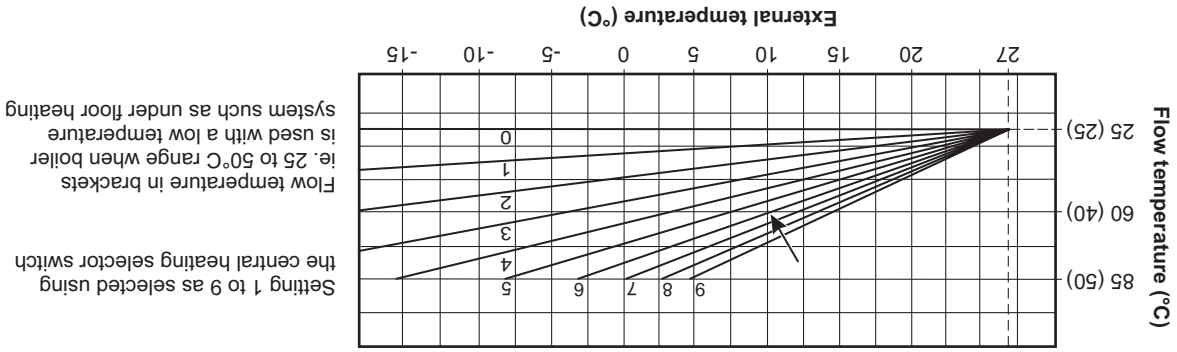

Fig. 2 - External weather compensation probe fitted
When an external weather probe is fitted, the central heating selector switch (item 6 in Fig. 1) will no longer adjust the flow temperature in °C, instead the display will show a scale of 1 to 9. Each number corresponds to a line on the graph in Fig 2 i.e. line 6 will give a flow temperature of 60°C when the external temperature is 10°C.